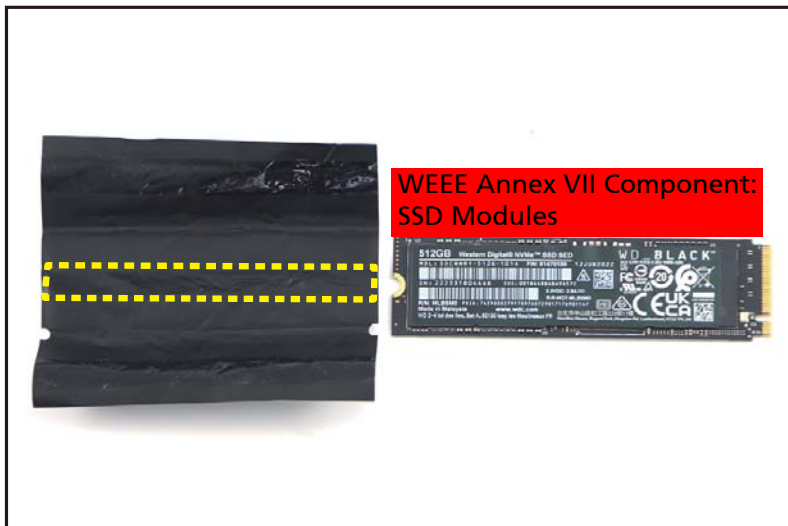

Figure 1-14. SSD Module Removal
6. Detach the SSD module from the adhesive graphite strip (marked with yellow dashed line) as shown in Figure 1-14.